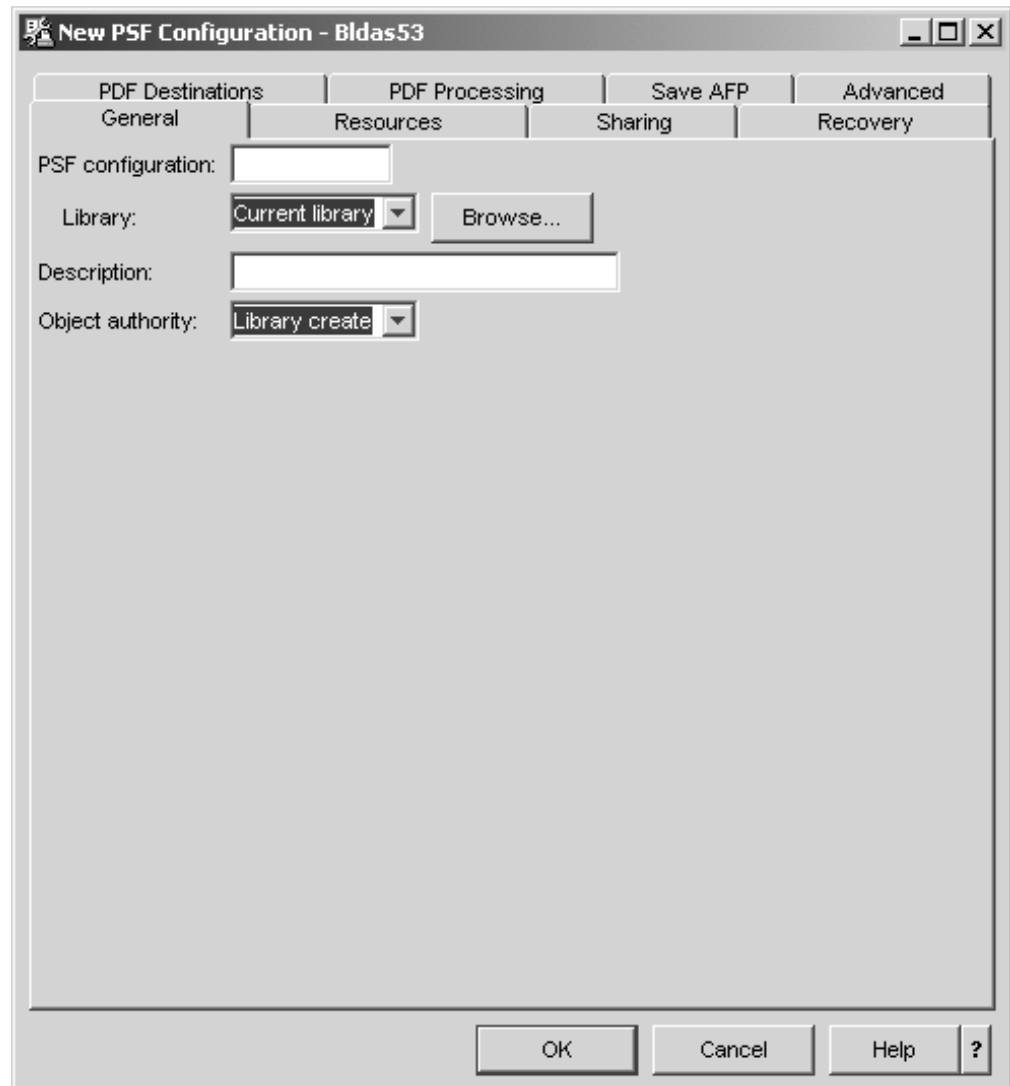

Figure 122. New PSF Configuration Window
6. The window shown in Figure 122 opens. Fill in the fields as prompted. For help press F1 or click **Help**.